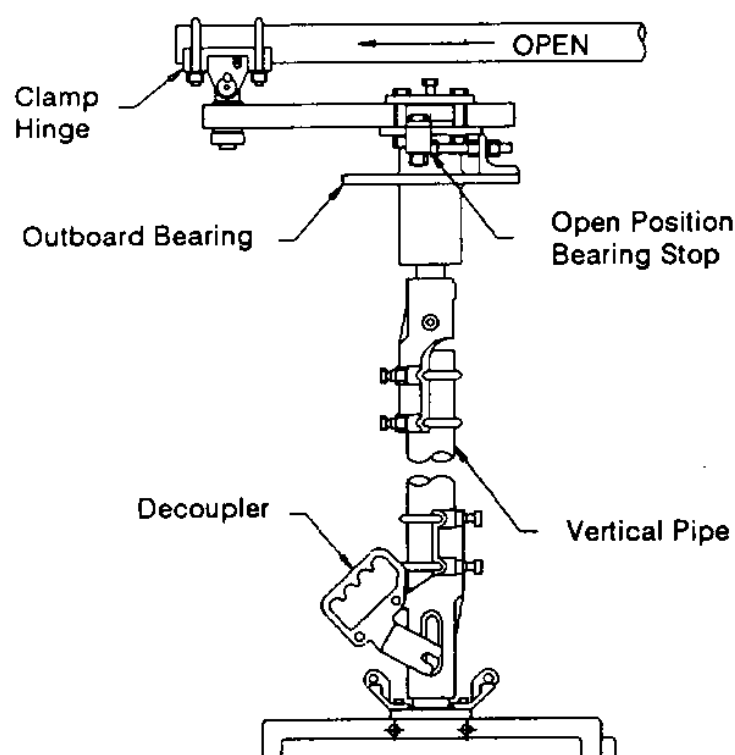

Figure 32 -- Vertical Control Pipe Installation
6. Install vertical control pipe between outboard bearing clamp and the flat abutment surface on the motor operator decoupler. Be sure the 5/8 inch gauge block is in position to space the decoupler at this height above the serrated disk on top of the motor operator as shown in Figure 32. Use kit #5 and kit #6 to mount the ground braid and position indicator respectively.